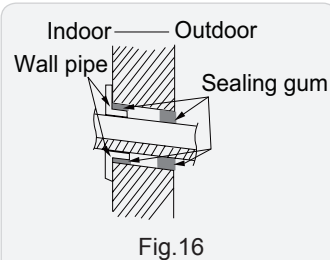

Fig.16
- (1) Put the bound pipes in the wall pipe and then make them pass through the wall hole.
- (2) Hang the indoor unit on the wall-mounting frame.
- (3) Stuff the gap between pipes and wall hole with sealing gum.
- (4) Fix the wall pipe. (As show in Fig.16)